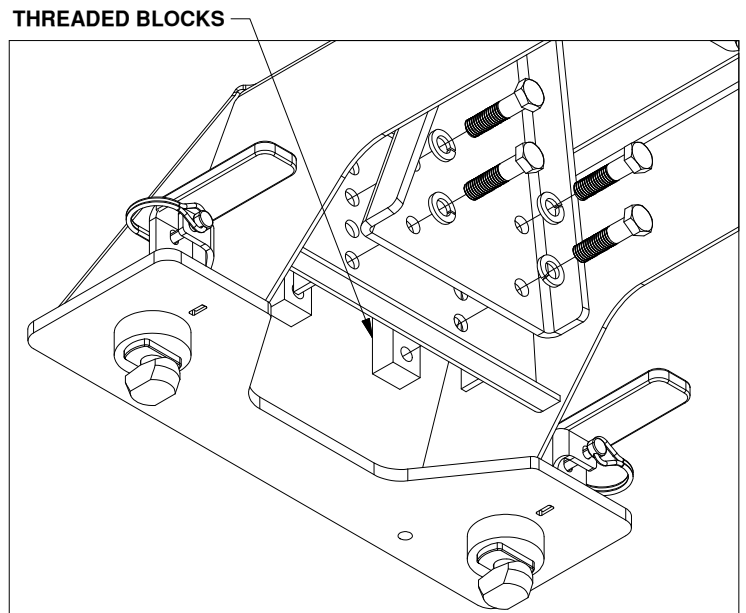

FIGURE A2: Passenger pivot arm mounting location.
- Locate both pivot arms, the four threaded blocks, eight 1/2" cap screws, and eight 1/2" split lock washers. Place the lock washers over the cap screws. Align the flat side of the pivot arm flat against the bolt plate and install four 1/2" cap screws through the holes on the arm, holding the arm in place, as shown in Figure A2. Pass the threaded blocks under the base and align the block with each set of screws and start each screw, as shown in Figure A2. Note that the sides of the block have threaded holes on one side and smooth bored holes on the other side. When installing the threaded blocks it is critical that the side with the smooth holes is flat against the bolt plate when installed. After all the screws are started through the arms, torque each bolt to 80 ft-lbs.